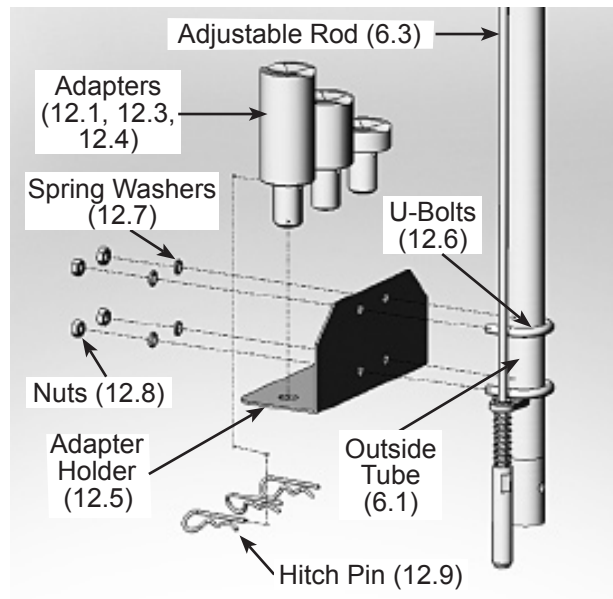

Fig. 1
2. Attach the Adapter Holder (12.5) to the Handle Assembly with two U-bolts (12.6), Lock Washers (12.7) and Nuts (12.8). (See Fig. 1.)
3. Put height adjustment Adapters into the Adapter Bracket and lock each with a Hitch Pin (12.9). (See Fig. 1.)